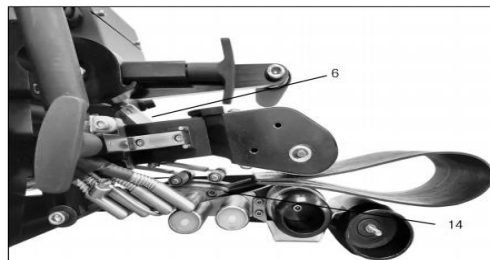

Figure 1
The nip pressure adjustment is located between the nip lever and upper nip arm; it is a hex shaped turnbuckle style nut (#6, Figure 1).
- Make sure the heating wedge (#14, Figure 1) is in the disengaged position.
- Turn the hex nut (#6, Figure 1) counter clockwise until the nip rollers begin to pinch down on the material and you cannot turn the nut by hand anymore. This zeroes the adjustment.
- Insert the adjustment material (the opposite end of the fold, two thicknesses) between the nip rollers and engage nip rollers together until the lock pin clicks into its detent as shown on the Figure 1. Check pressure by attempting to move the material side to side. If you are able to move the material or pull the material straight out without the nip rollers turning, disengage the nip pressure and turn adjustment nut (#6, Figure 1) counter clockwise ¼ turn at a time until the desired pressure is reached. Remember to tighten the set screw(s) on the adjustment nut after you have completed adjustment of the nip pressure to prevent the pressure from backing off while welding.